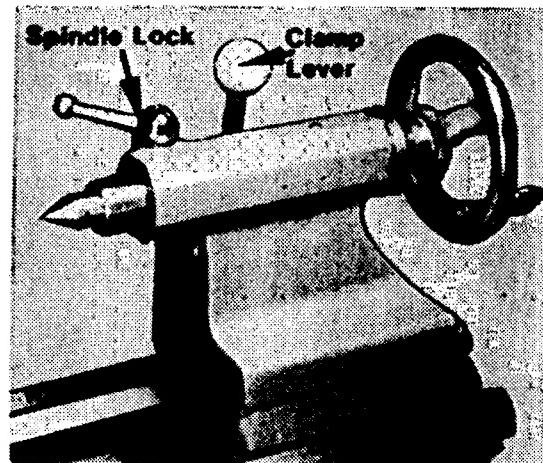

Fig. 15. Tailstock
9. LEAD SCREW AND HALF NUTS. Oil every hour, when in use. (Fig. 15).